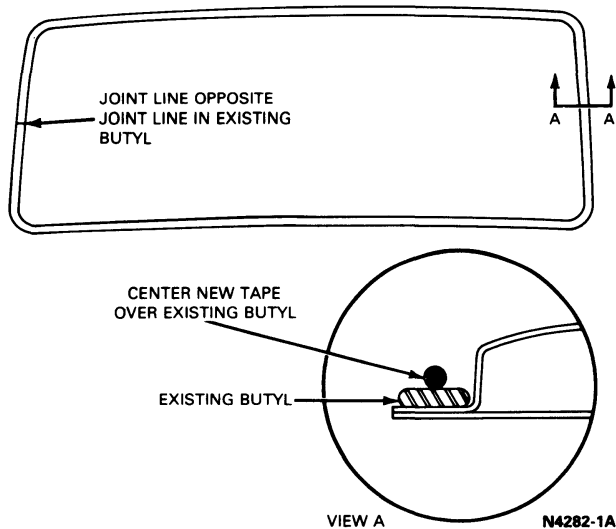

FIG. 8 Procedure No. 1—Butyl Tape Installation
3. Apply the primer (furnished in the kit) around the perimeter of the cleaned inside surface and the edge of the glass in the area that will contact the butyl seal (Fig. 8).